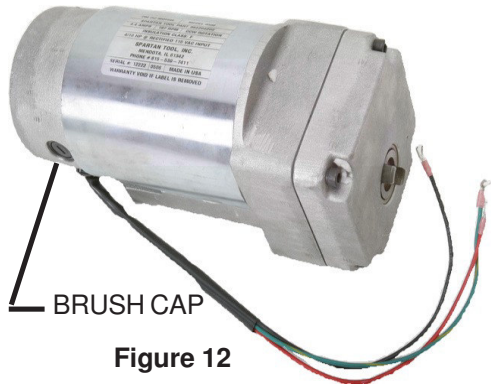

Figure 12
1. Unscrew brush cap. (See figure 12).